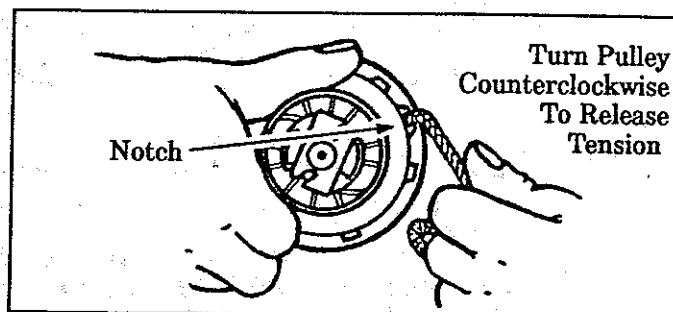

Figure 38
3. If the starter rope is not broken, release the spring tension by pulling about 10 inches of rope from the pulley as shown in Figure 38. Catch the rope in one of the notches. Figure 38.